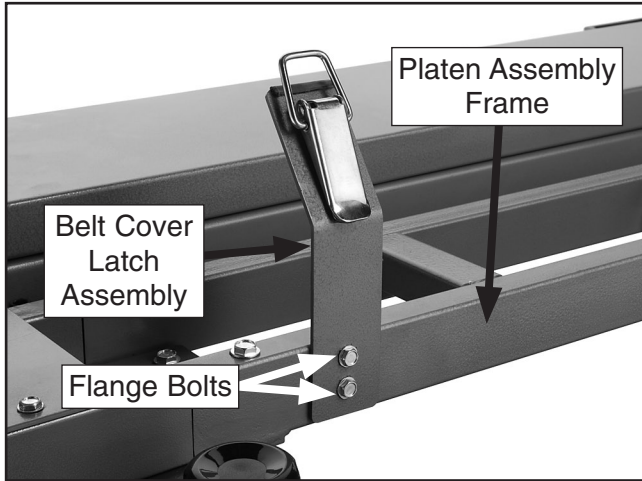

Figure 19. Lid latches.
9. Attach the two belt cover latch assemblies to the platen assembly frame with (4) $\frac{1}{4}$ -20 x $\frac{1}{2}$ flange bolts, as shown in **Figure 19**.